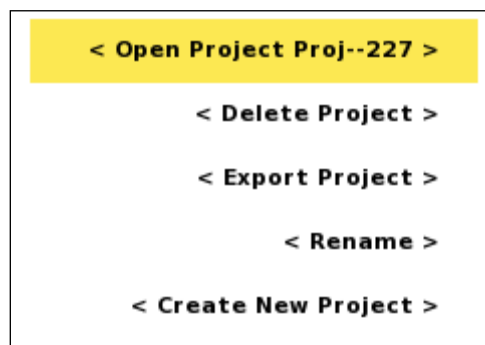

Figure 16 *Project* Option menu with *Open* item highlighted
- Press <Options> and the option menu of Figure 16 will be shown